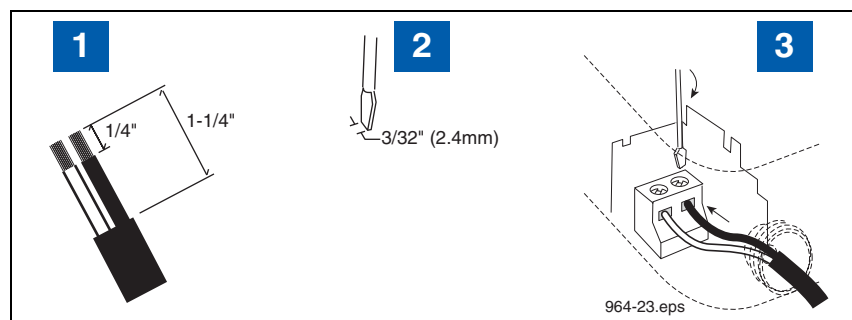

Figure 29. Connecting Input Wiring To Transmitter Terminal Blocks
4. Strip back cable jacket and wires as shown in Figure 29.
### LEGEND FOR NUMBERED BOXES IN Figure 29
7. Strip back cable jacket and wires as shown in Figure 29.
5. Slide the nut over the cable. Choose the correct size bushing and slide it over the cable. Dress the cable jacket according to the dimensions in Figure 29. Insert the cable into the appropriate opening at the bottom of the housing. Insert each wire into the appropriate terminal and tighten. Leave a small amount of slack in each wire. Slide the bushing into the bottom of the housing. Hand tighten the nut.
9. Slide the nut over the cable. Choose the correct size bushing and slide it over the cable. Dress the cable jacket according to the dimensions in Figure 29. Insert the cable into the appropriate opening at the bottom of the housing. Insert each wire into the appropriate terminal and tighten. Leave a small amount of slack in each wire. Slide the bushing into the bottom of the housing. Hand tighten the nut.